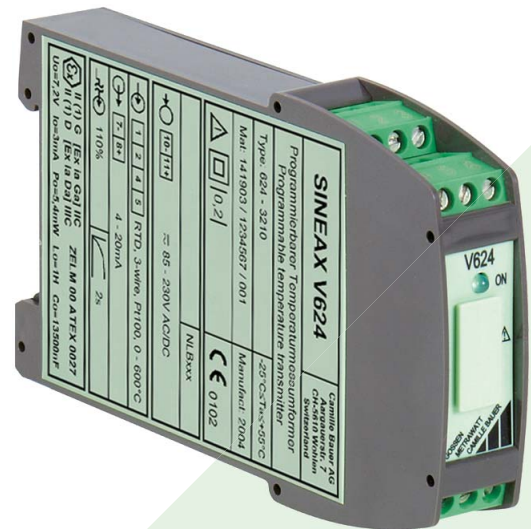

Fig. 1. Transmitter SINEAX V624 in housing P12/17, terminals not pluggable.
**SINEAX V624** (Fig. 1) is designed for measuring temperature in combination with thermocouples or resistance thermometers. Thermocouple non-linearities are automatically compensated.